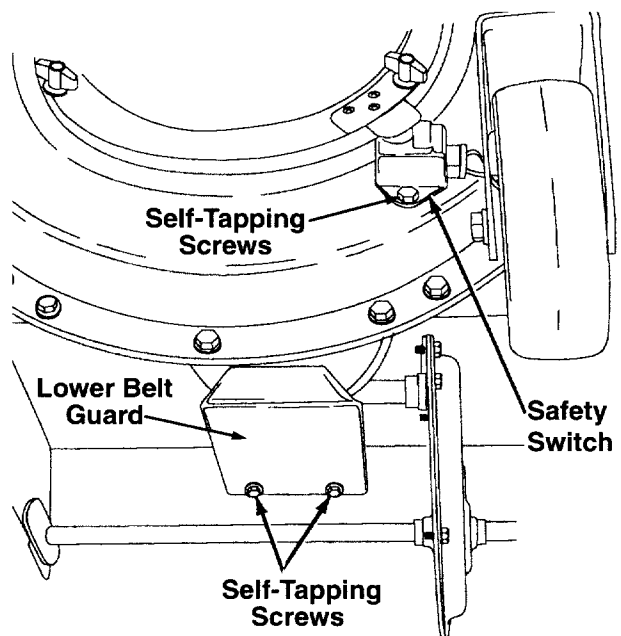

Figure 17
9. Remove the lower belt guard by removing the two self-tapping screws. See Figure 17.
10. Remove the safety switch from the front of the outer housing by removing the two self-tapping screws. See Figure 17.